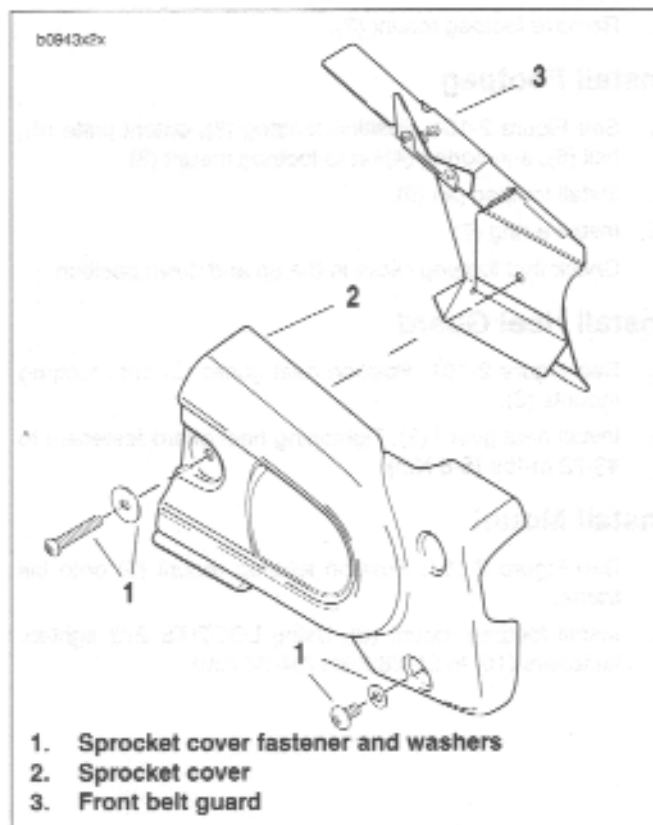

Figure 2-103. Sprocket Cover
2. See Figure 2-103. Remove sprocket cover fasteners and washers (1).
1. See Figure 2-103. Position sprocket cover (2) over front belt guard (3) and front sprocket.
2. Install sprocket cover (2) using LOCTITE 222 on rear sprocket cover fastener (1) and tighten all fasteners and washers (1) to 12-36 in-lbs (1-4 Nm).